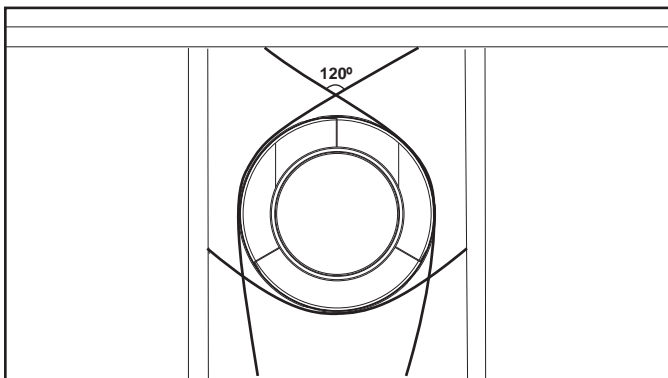

Figure 10.8 Securing Vertical Pipe Sections
- Vent supports or plumbers strap (spaced 120° apart) may be used to support vent sections. See Figures 10.8 and 10.9.